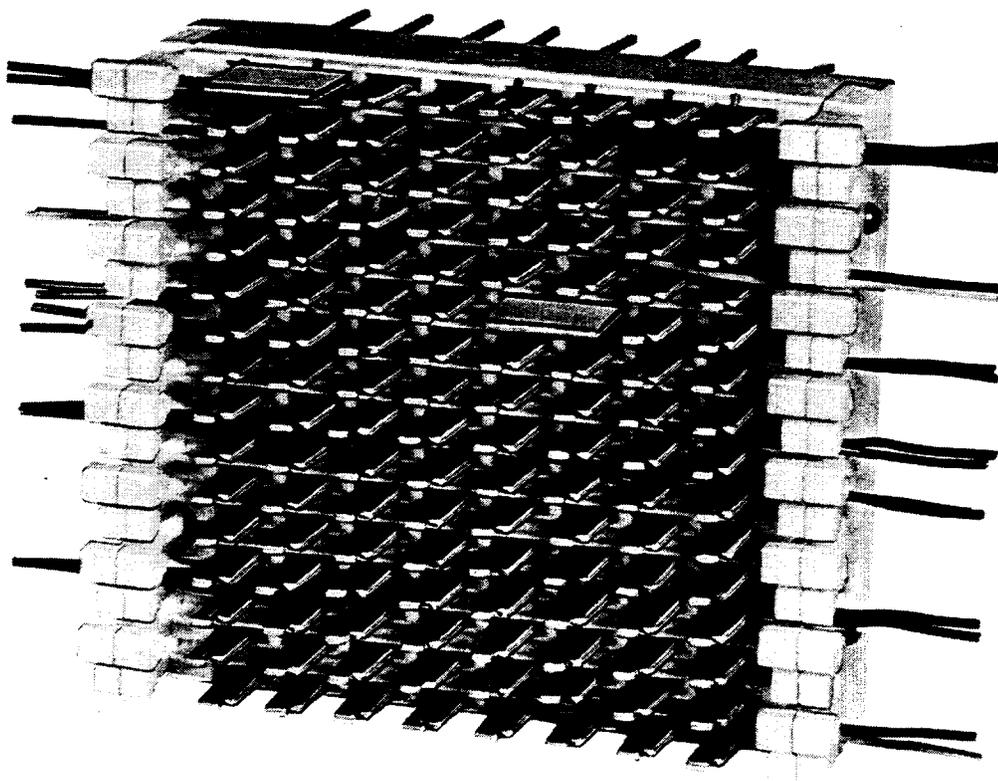

Figure 37—66G2-64 Connecting Block
8.21 The 66G- and 66H-type connecting blocks (Figure 37) were designed for use with the ESS modular distributing frames. The blocks are rated DA (Discontinued Availability) and the recommended replacements are 78A- and 78B-type connecting blocks.